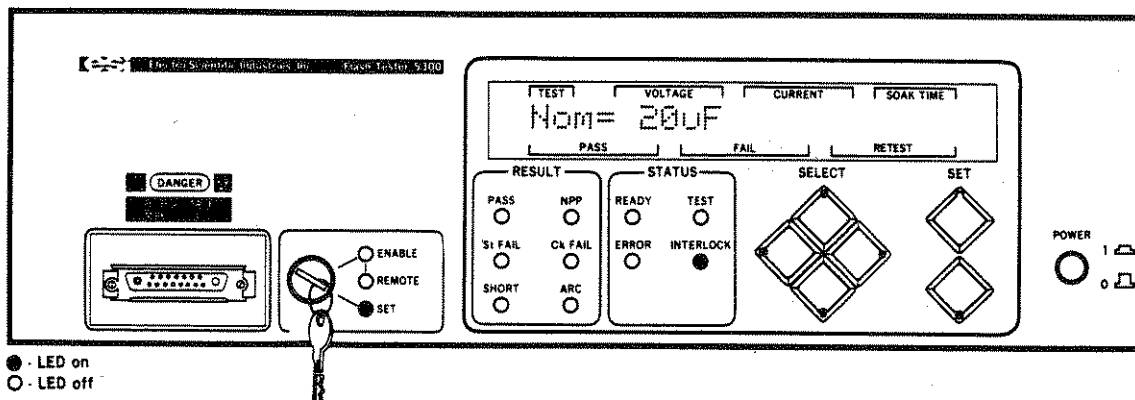

Figure 3-25. Setting the Nominal Capacitance
- STEP 8. The display should indicate the maximum Nominal Capacitance that can be set. In addition, the LED on the INC pushbutton should not be illuminated. Figure 3-25 is an example of this.